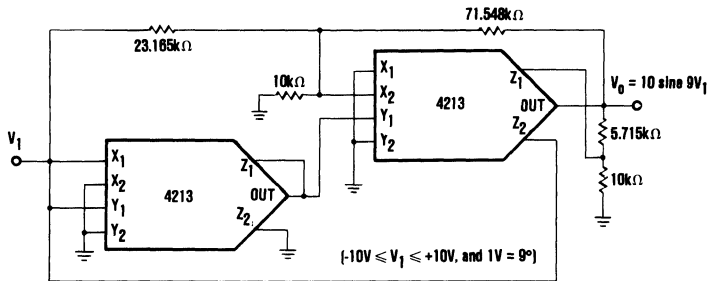

FIGURE 10. Sine Function Generator.
8.3.6 Sine Function Generator. The circuit in Figure 10 uses implicit feedback to implement the following sine function approximation: $V_o = (1.5715V_1 - 0.004317V_1^3)/(1 + 0.001398V_1^2) = 10 \text{ sine } (9V_1)$.